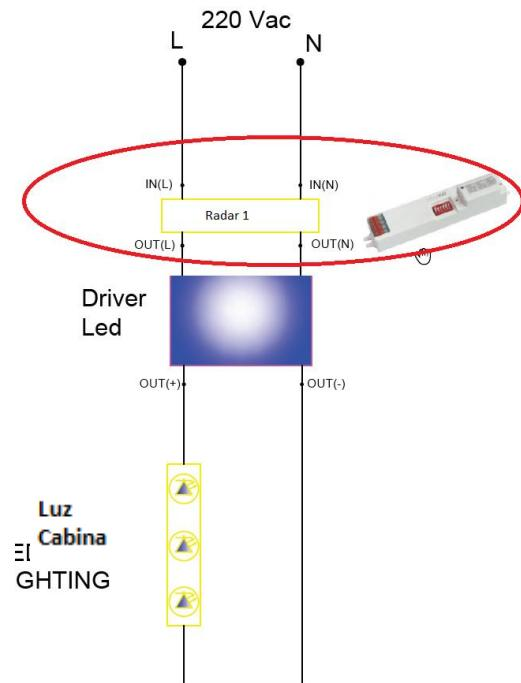

Fig. 2
- II. Place Radar 1 before powering the luminaires (Fig. 2).